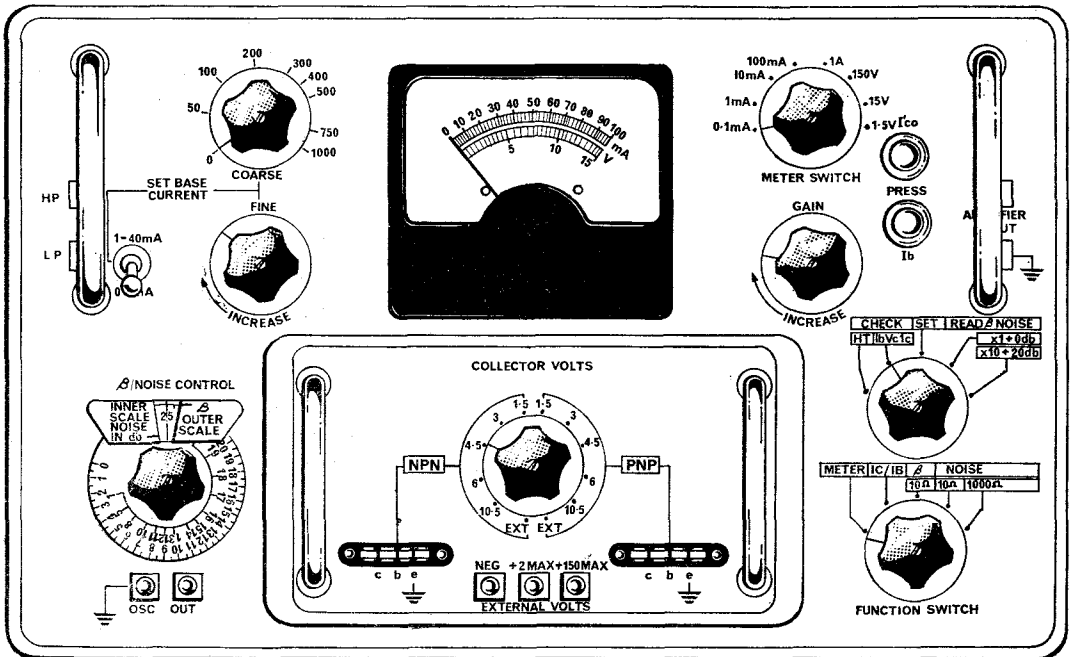

Fig. 8 Test set transistor CT 446
24. More sophisticated tests on transistors are usually carried out only at third line units on special test equipment, such as the test set CT 446 shown in figure 8. The circuitry, batteries and meters needed to carry out standard tests can be selected on the front panel switches. Full details of this instrument can be found in AP2537G which also contains the test data for CV registered transistors. The serviceability of a given transistor can normally be determined by two tests, leakage current and current gain, and the basic circuits for these tests are described in the following paragraphs.